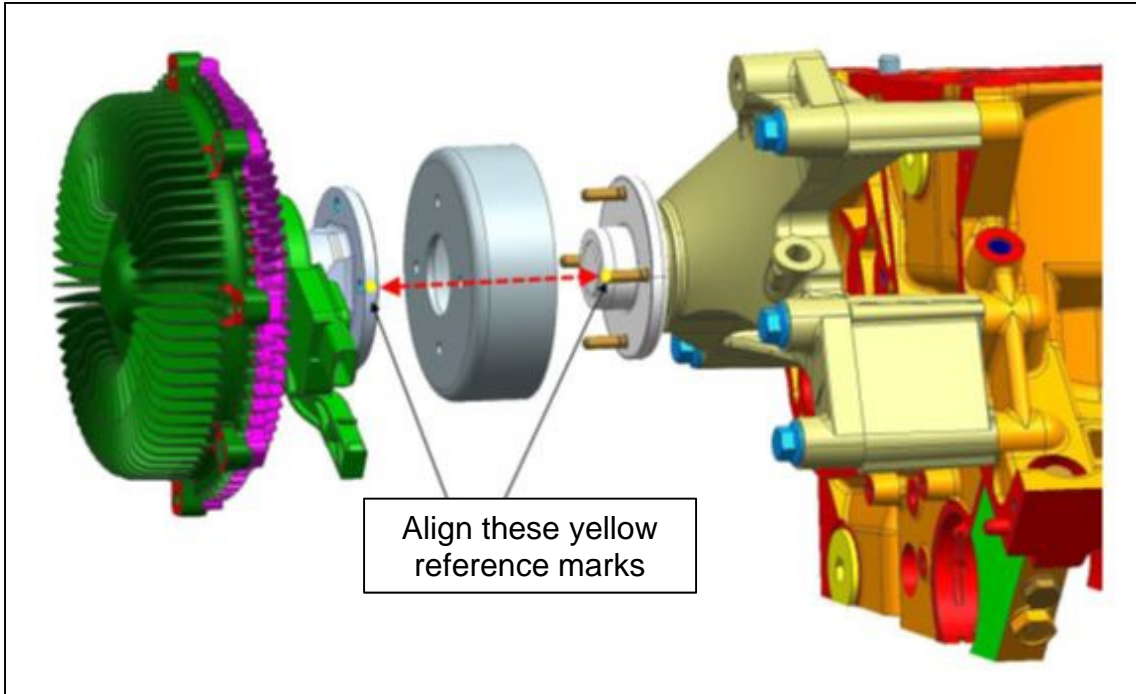

Figure 5
- During installation of the new fan pulley and fan coupler, ensure the paint reference marks are aligned (see Figure 5).